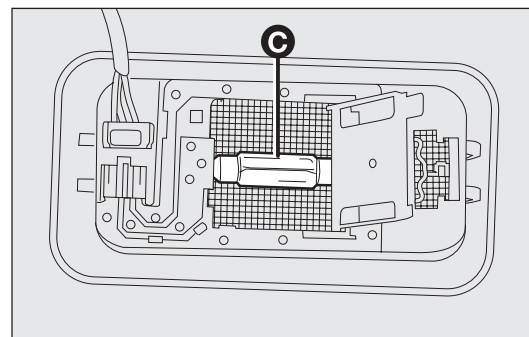

fig. 162
- ☐ replace the bulb C-fig. 162 releasing the side contacts, insert the new bulb and make sure that it is correctly clamped between the contacts;